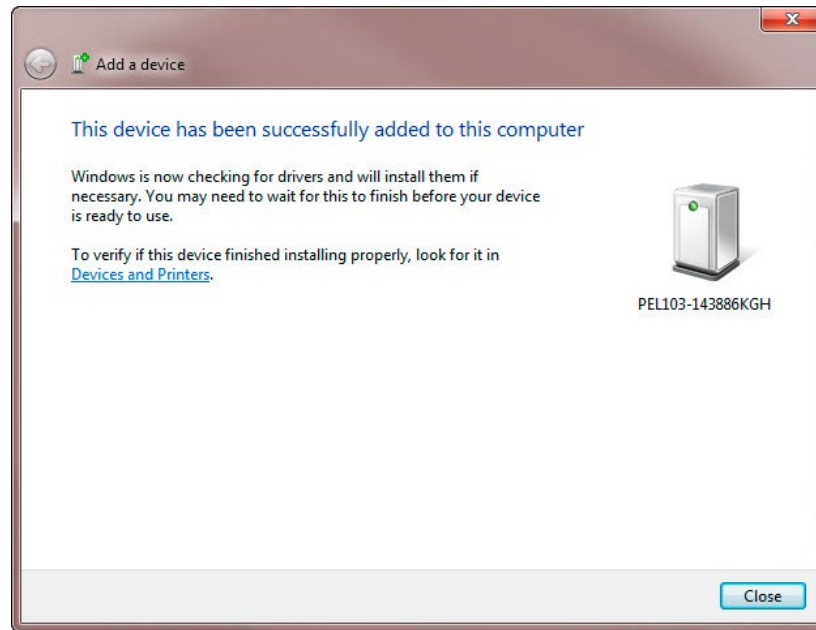

Figure 11
6. Once the instrument has been successfully added to the computer, a window similar to Figure 11 will be displayed. Select **Close**.